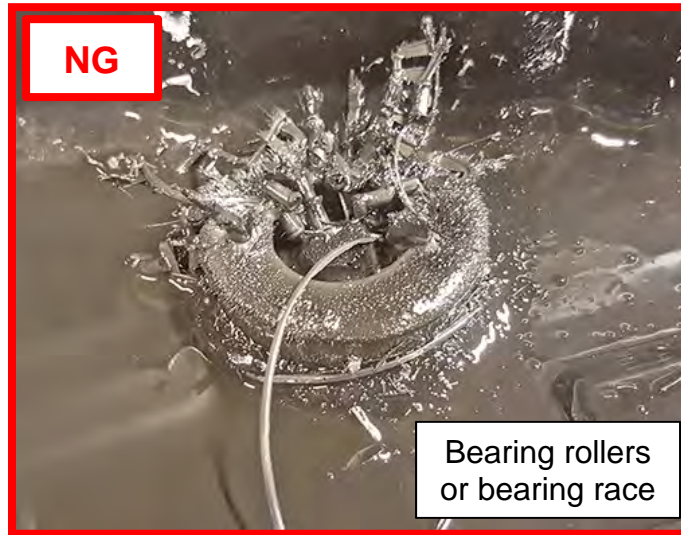

Figure 18
- Figure 18, Figure 19 and Figure 20 are **No Good (NG)** for this repair - Broken parts would include pieces of bearings, clutch material, belt elements, etc.